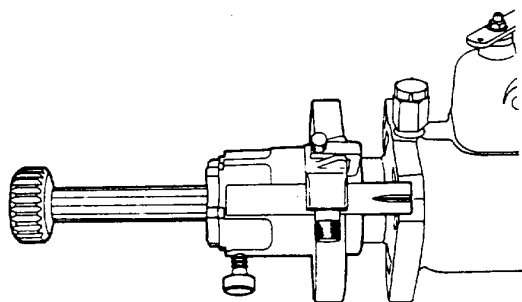

Fig. N.11.
7. In this position, slide pointer forward until it is halfway over pump flange and check that timing mark is central to slot in pointer (see Fig. N.11).